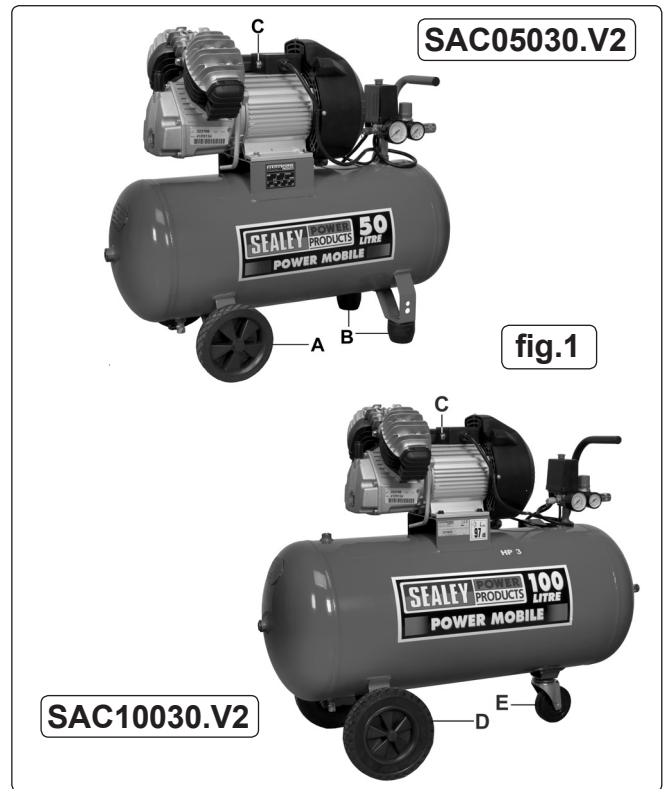

fig.1
- 3.4. SAC05030.V2- Fit the main wheels (fig.1.A) and two rubber feet (fig.1.B) to the main frame using the nuts, bolts and washers supplied. SAC10030.V2- Fit the main wheels (fig.1.D) and small wheel (fig.1.E) to the main frame using the nuts, bolts and washers supplied.
- 4.3.7. The compressor is fitted with an overload switch, and a reset trip button located in the connection box on top of the motor (see fig.1.C & fig.6). Should the overload switch activate, switch the compressor off and leave for a few minutes before pressing the trip reset button to reset, and then re-start the compressor. For possible causes of overload switch activation and remedies, see Section 6.